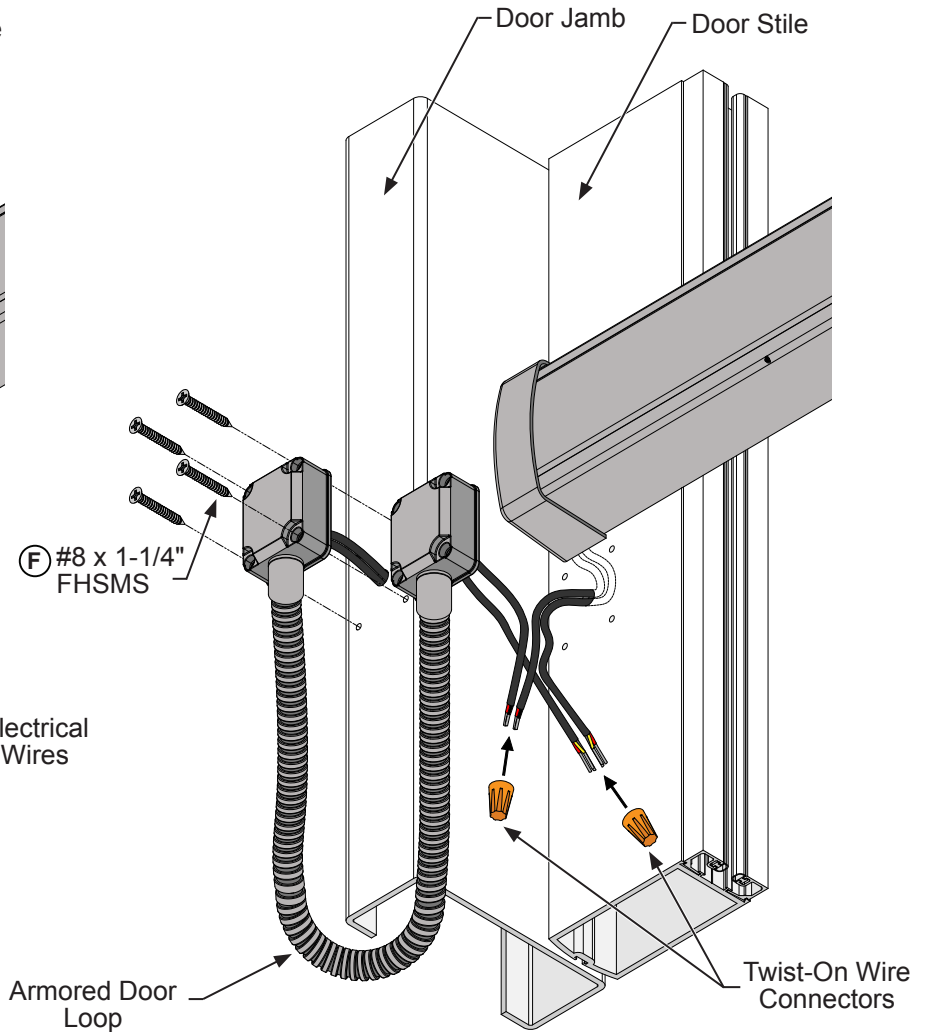

FIG.19
ⓕ (4) #8 x 1-1/4" FHSMS. (Fig. 19)
Once you have secured the Armored Door Loop, connect the wires from the Armored Door Loop to the exit device wires using Twist-On Wire connectors. (Fig.19)